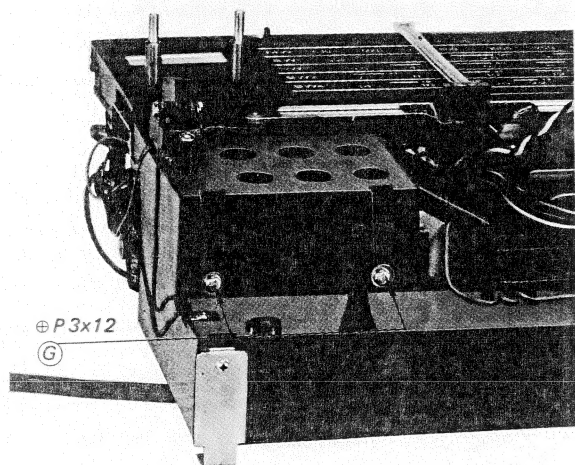

Fig. 2-8. Power supply circuit board removal
2. Remove the two screws marked (G) in Fig. 2-8.